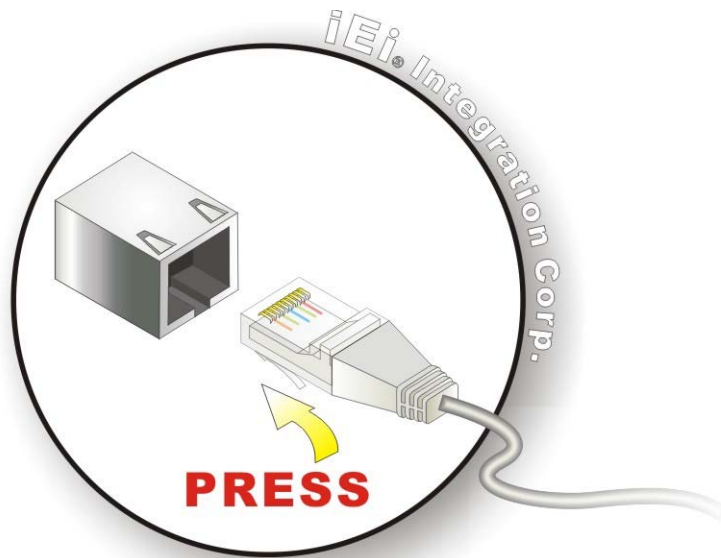

Figure 4-14: LAN Connection
**Step 2: Align the connectors.** Align the RJ-45 connector on the LAN cable with one of the RJ-45 connectors on the NANO-BT-i1. See **Figure 4-14**.